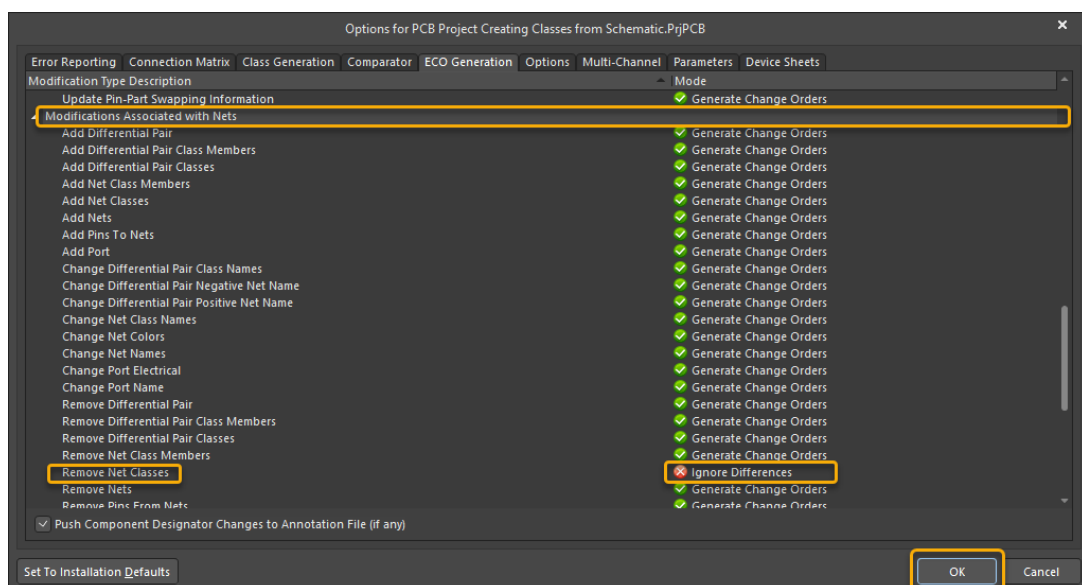

Figure 9. ECO Generation, deactivate Remove Net Classes
43. Before closing the Project Options, select the *ECO Generation* tab. Find the option **Remove Net Classes** in the *Modifications Associated with Nets* section and set the mode to **Ignore Differences**. If this is not done, Net Classes defined in the PCB that don't have a corresponding schematic directive, will be removed. See Figure 9.